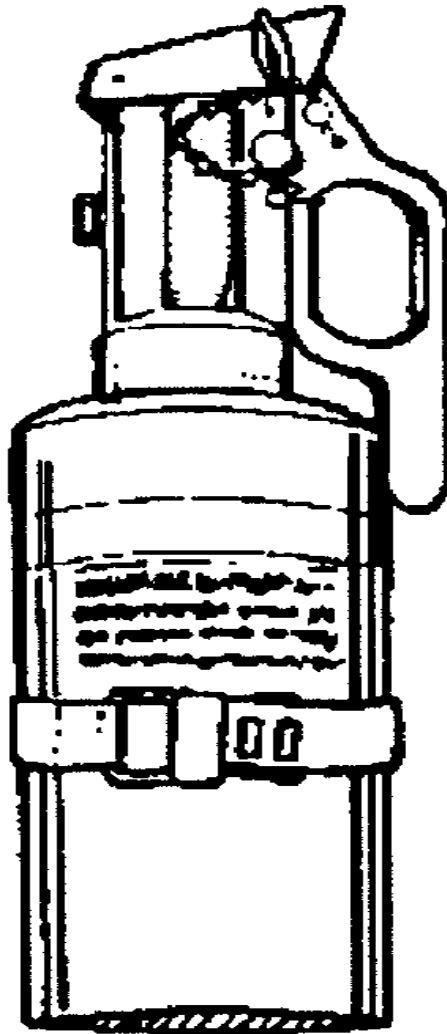

Figure 5-4 ABC-M11 Portable Decontaminating Apparatus
d. The M11 apparatus (Figure 5-4) decontaminates small areas, such as the steering wheel or other equipment that soldiers must touch. It is a steel container with aluminum spray-head assembly and a nitrogen gas cylinder that provides the pressure. It is filled with 1-1/3 quarts of DS2, which is sufficient for covering 135 square feet. The effective spray range is 6 to 8 feet. After each use, refill the M11 with DS2 and fit it with a new nitrogen cylinder, and it will be ready to use again. See TM 3-4230-204-12&P for additional information.